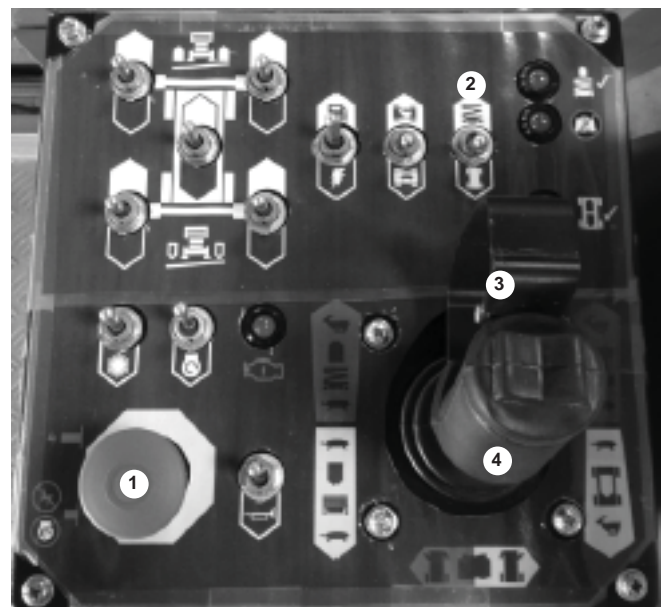

Figure 9.3
2. Set the selector switch (2) (see figure 9.3) to the platform function (up).
- Squeeze the safety control (3) and pull the joystick controller (4) (see figure 9.3) backward. The platform should lower. If it does not lower, call for help from someone on the ground.